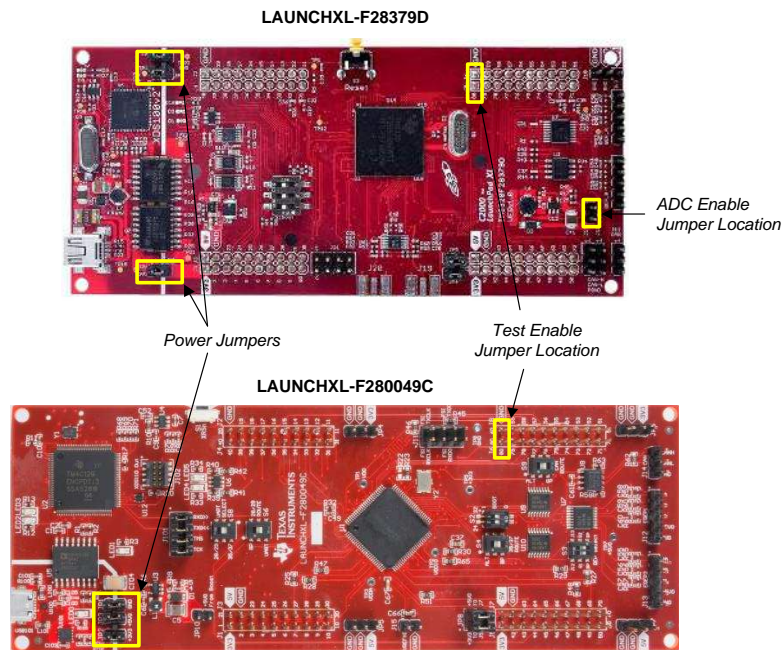

**Figure 2. PLC System Diagram**
Figure 2 shows how the BOOSTXL-AFE031-DF1 serves as the centerpiece of an integrated PLC system that also requires the following:
The AFE031 is capable of both capacitor-coupled and transformer-coupled connections to the target power line. The transformer-coupled solution presented in Figure 2 is designed for optimal power transfer to the load, and protects the line driver from harmful power-line transients. The high-voltage (HV) capacitor on the secondary side of the transformer is responsible for ac coupling the PLC signal to the dc power line. Table 5 lists the recommended components for the line coupling board.